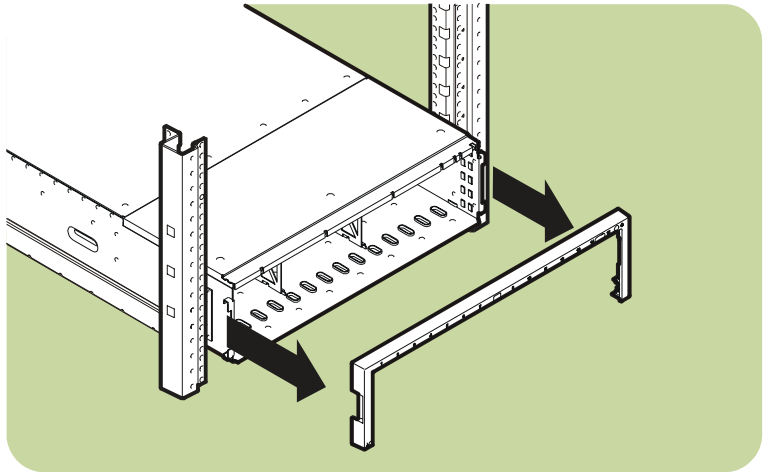

Fig. 18. Removing front bezel in HP Rack System/E
12. Remove the front bezel from the array chassis (see Fig. 18).